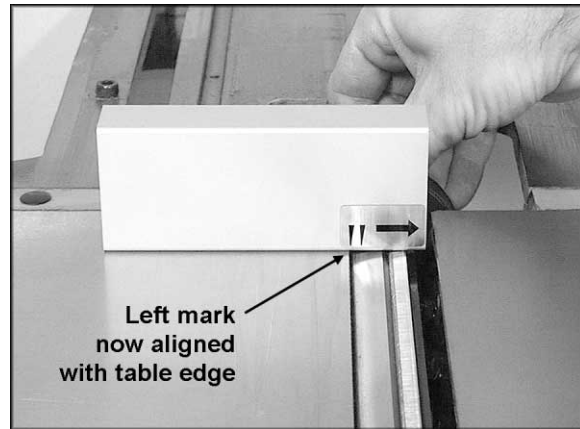

Figure 30
9. Rotate the cutterhead clockwise (by using the pulley). If table and knives are set correctly, the knife will contact the aluminum gauge and move the gauge until the left mark now lines up with the edge of the outfeed table, as shown in Figure 30.